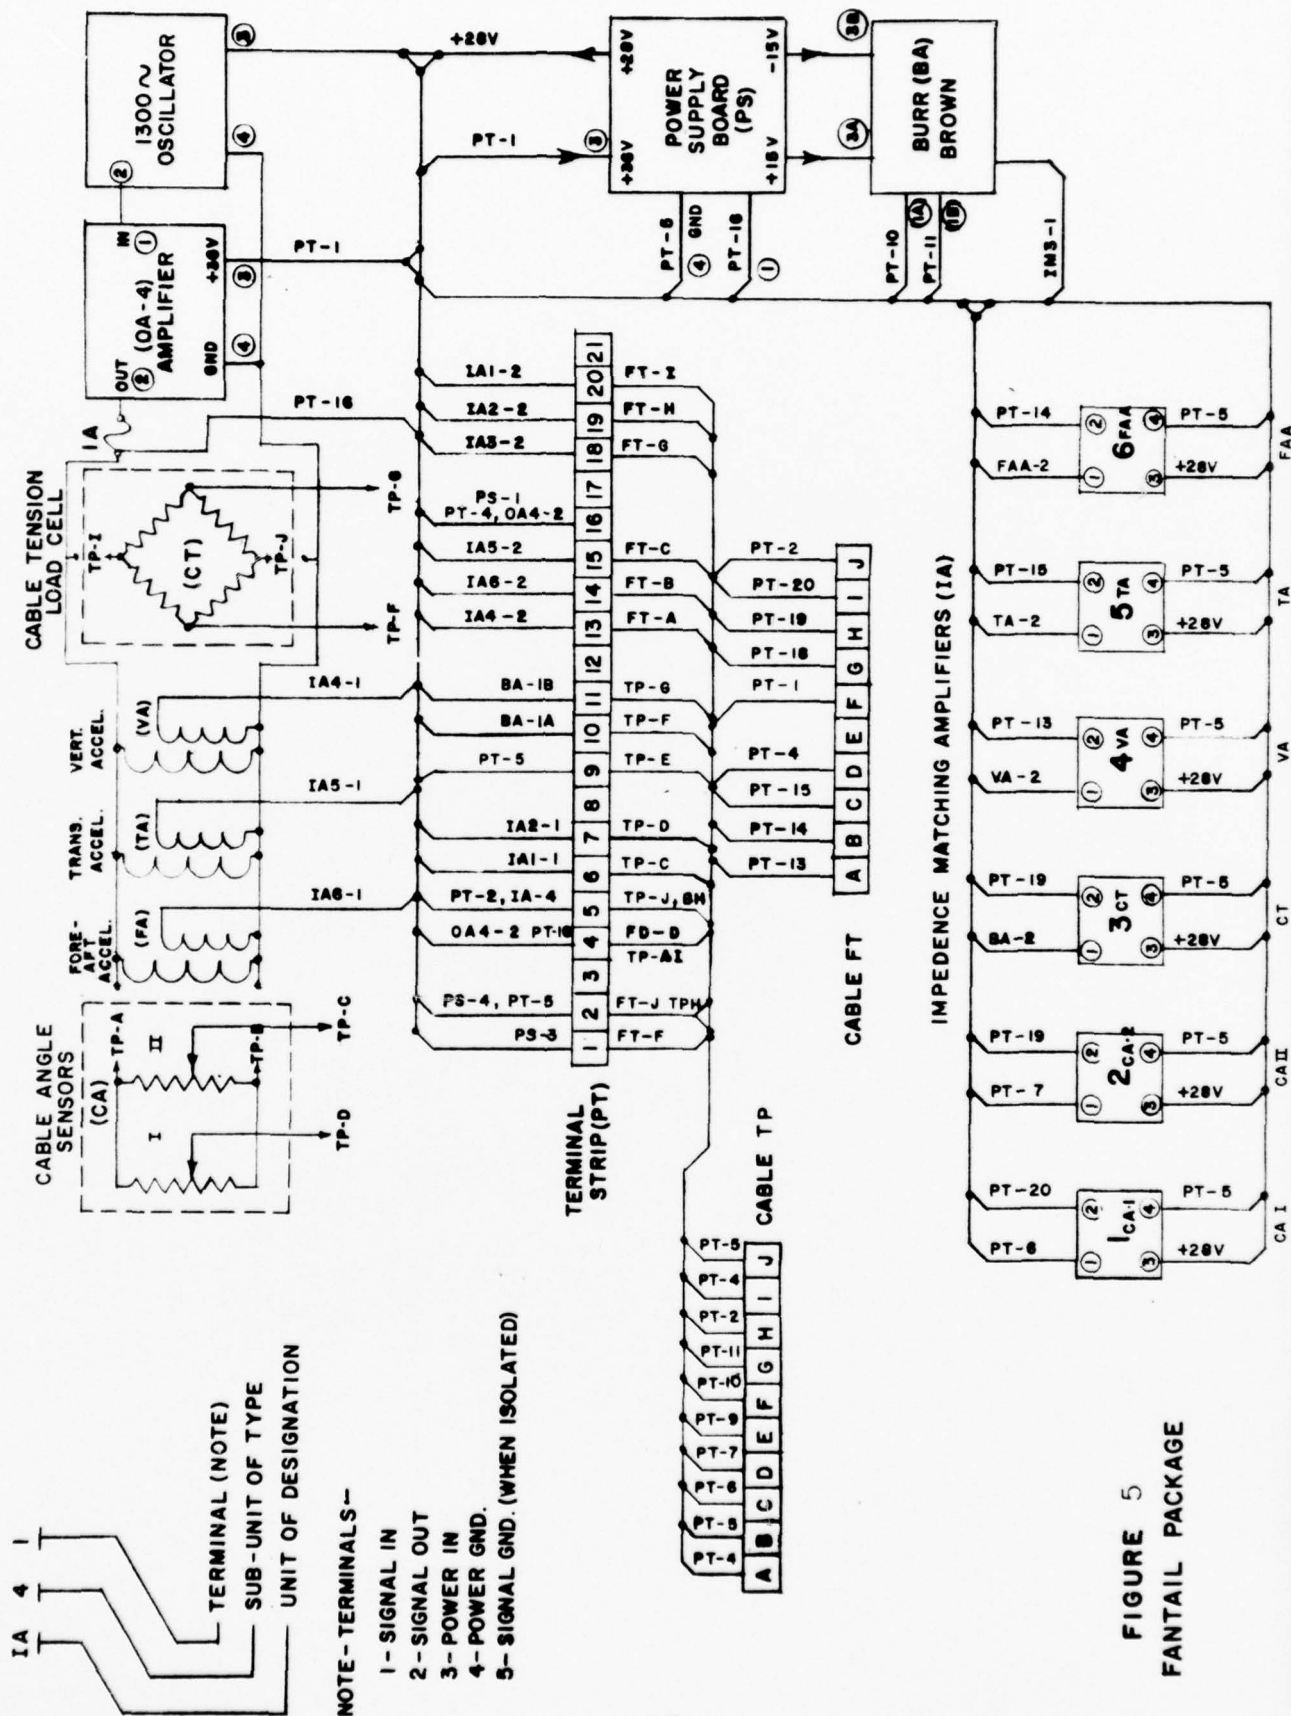

FIGURE 5
2. Fantail Accelerometer Package and Associated Sensors (Figure 5).